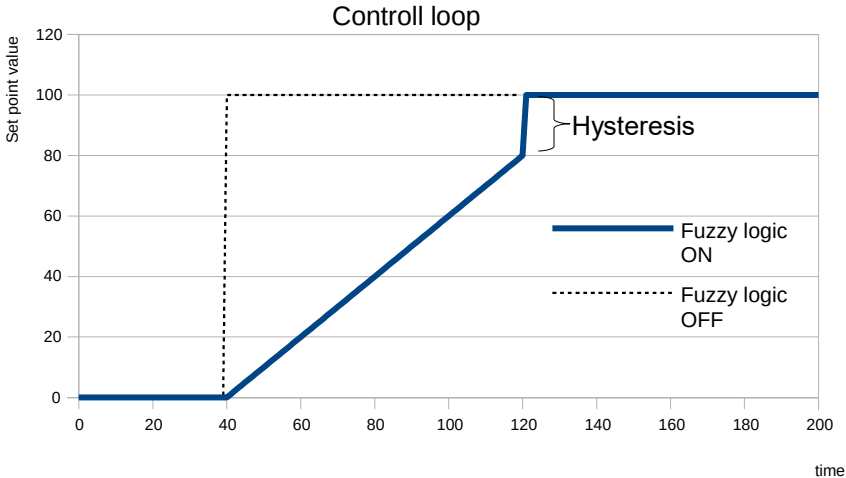

Fig. 7.119. Comparison of response of controller on change set point value with and without fuzzy logic block use
- **Hysteresis** – defines the value of hysteresis (see **Fig. 7.119**),